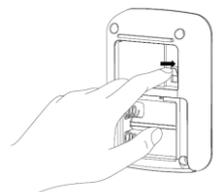

Figure 3
1. Remove 2 CR123A battery, press the Tamper switch and hold it. (Figure 3)